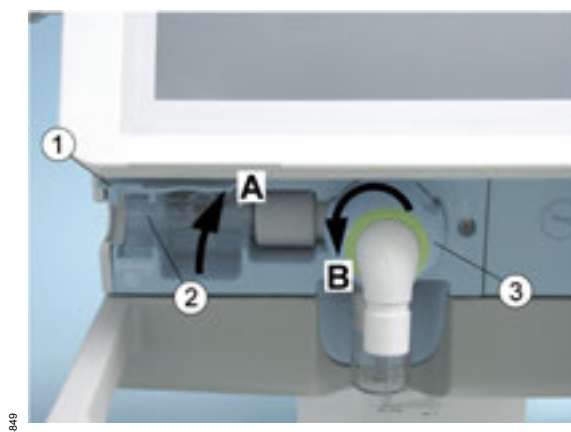

Fig. 92 Detail view of Savina 300: removing the expiratory valve
- 1 Swivel the flow sensor flap (Fig. 92/1) up to position **A**.
- 2 Push the flow sensor (Fig. 92/2) to the left as far as it will go.
- 3 Turn the locking ring (Fig. 92/3) of the expiratory valve to the left towards **B** as far as it will go.